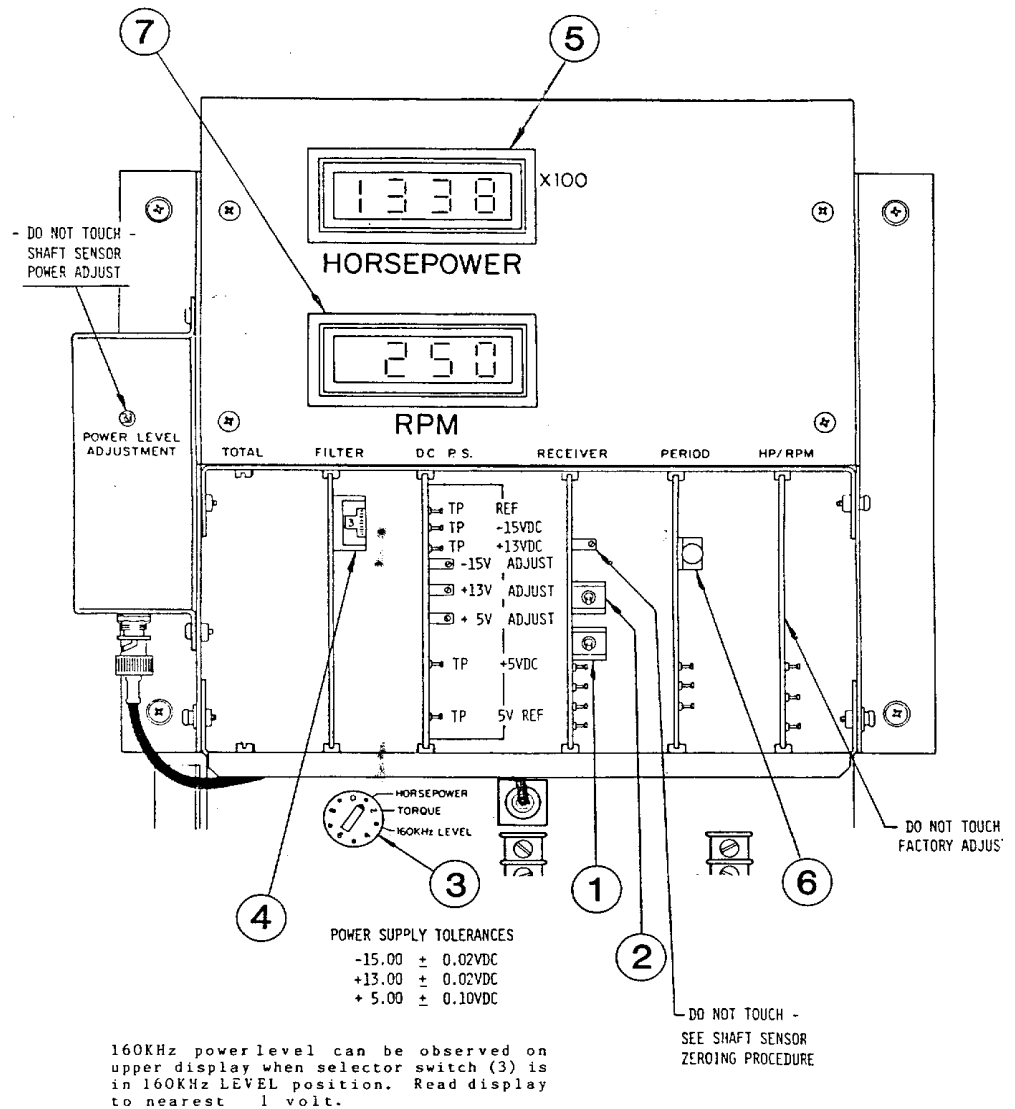

Figure 2-1: Model 1642A Electronics Readout
Figure 2-1: on page 19 shows the controls and indicators of the Model 1642A Electronics Readout. Under normal use the equipment remains powered-up 24 hours a day. There is no stand by. The system is turned on and off from within the readout enclosure using the Power Switch (3). Non- hazardous power to shaft mounted components is provided via the 160 Khz adjustable power supply (2).
WARNING: Ensure the POWER SWITCH, Figure 2-1 (3) is in the off position before servicing. Failure to heed this warning could allow servicing personnel to receive a hazardous electrical shock.
The Model 1642A Readout is protected by a circuit breaker operating on both sides of the AC power line. 160 KHz power to the PSU is protected by current limit circuitry and a fast blow fuse. See Figure 2-1 (3) and (10).
The 160 kHz power fuse, Figure 2-1 (10), is of the 3AG type rated at 2 amps.
Normal mode of operation of the 1202B requires no user interaction. All indicators are on continuously. The following paragraphs identify normal mode and calibration mode switch positions. Reference Figure 2-1: on page 19 for switch locations.